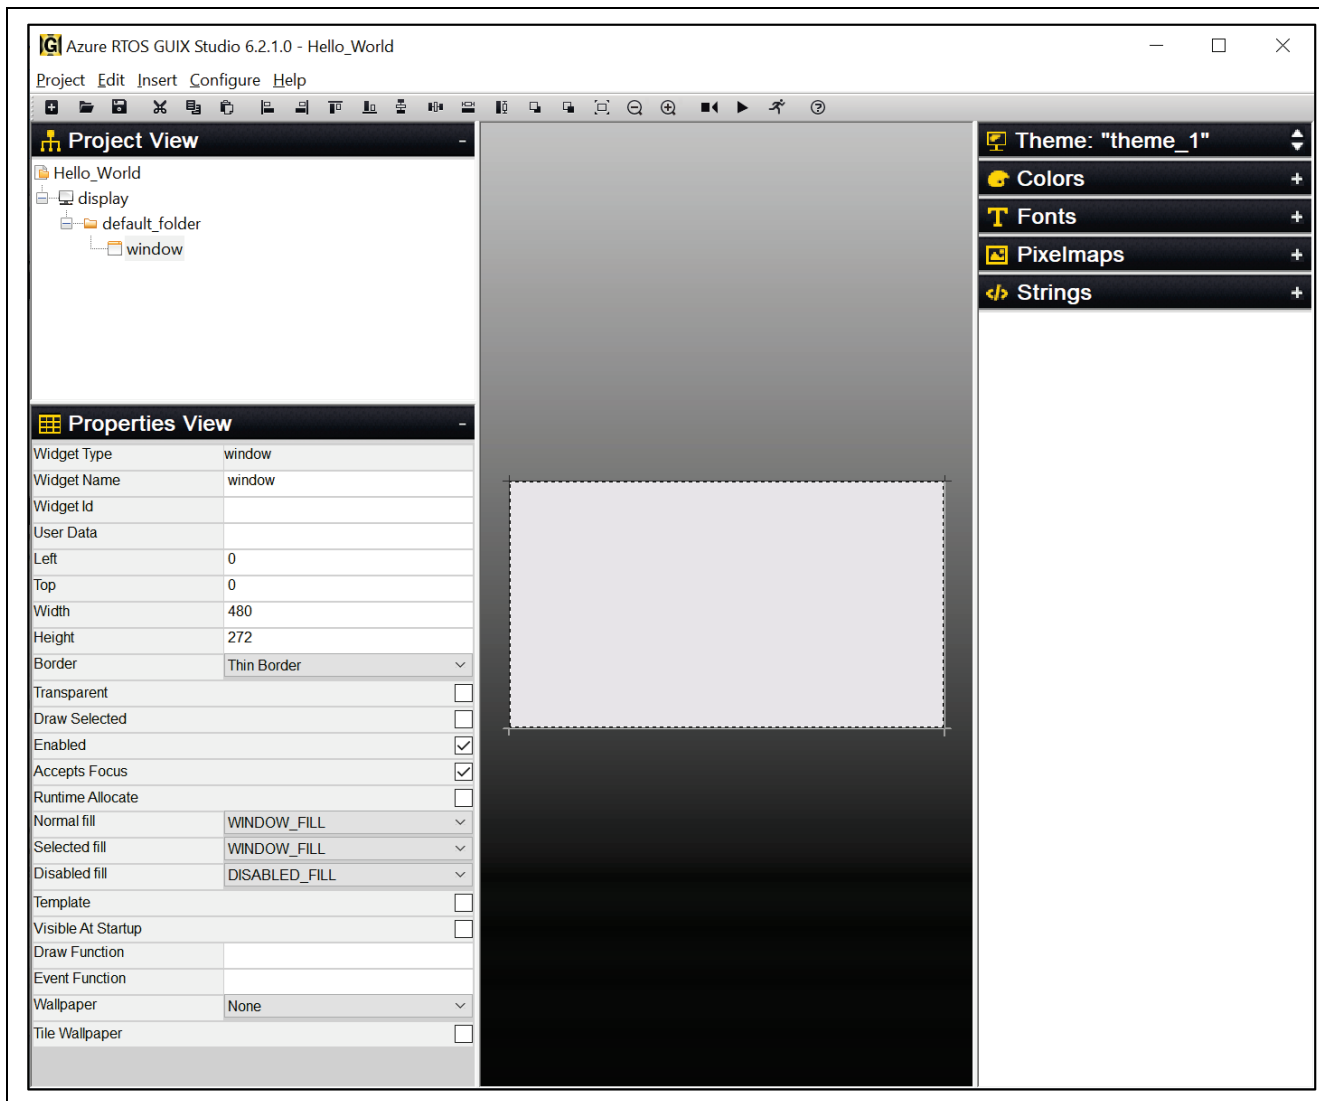

Figure 41. After Settings New Project "Hello World"
4. Star New Project "Hello World" should look similar Figure 41.